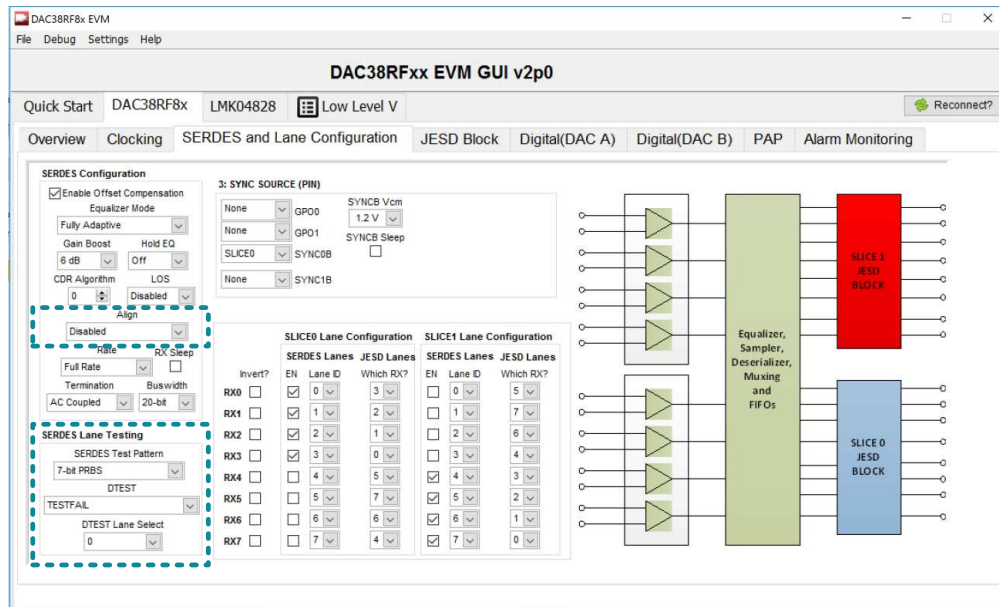

Figure 5. DAC38RF8x EVM GUI SERDES and Lane Configuration Tab
- Step 7. Select the *SERDES and Lane Configuration* sub-tab (see Figure 5). In the *Align* drop-down menu select *Disabled*. Next, in the *SERDES Test Pattern* drop-down menu select the desired PRBS test. In the *DTEST* drop-down menu select *TESTFAIL*. In the *DTEST Lane Select* drop-down menu, select the lane to be tested.